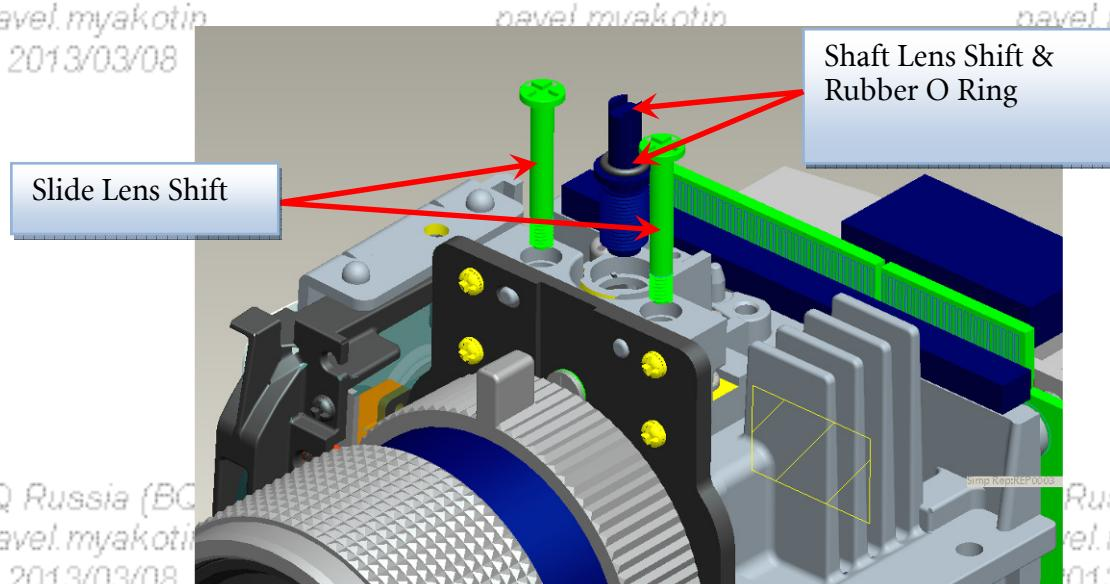

Fig.6-2
6.2 Assemble "Shaft Lens Shift" and "Slide Lens Shift" to "HSG DMD". (Fig. 6-2, 6-3)